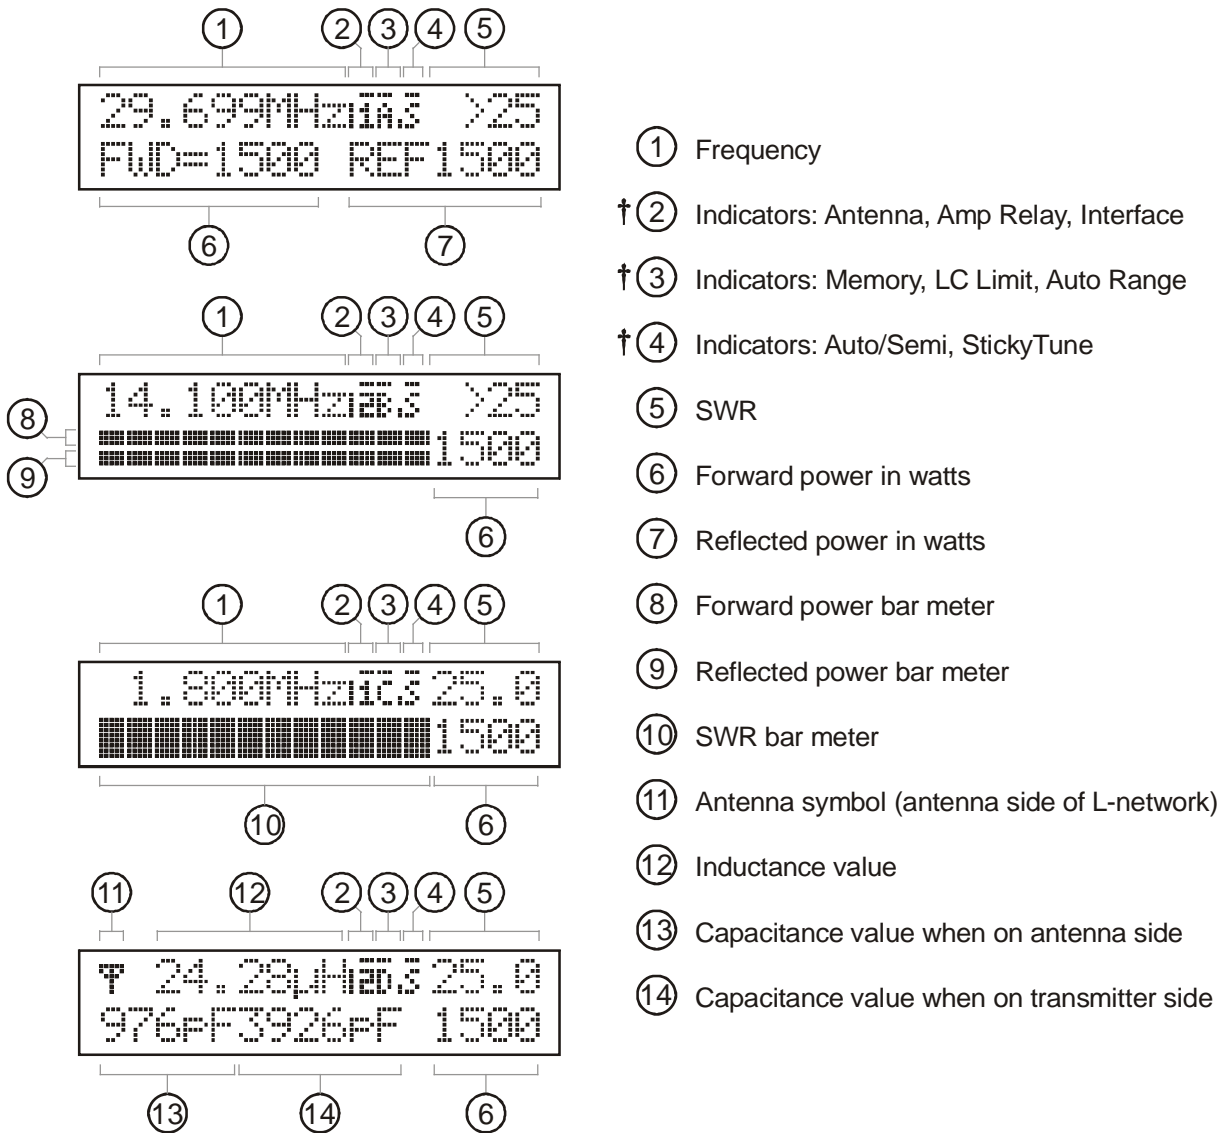
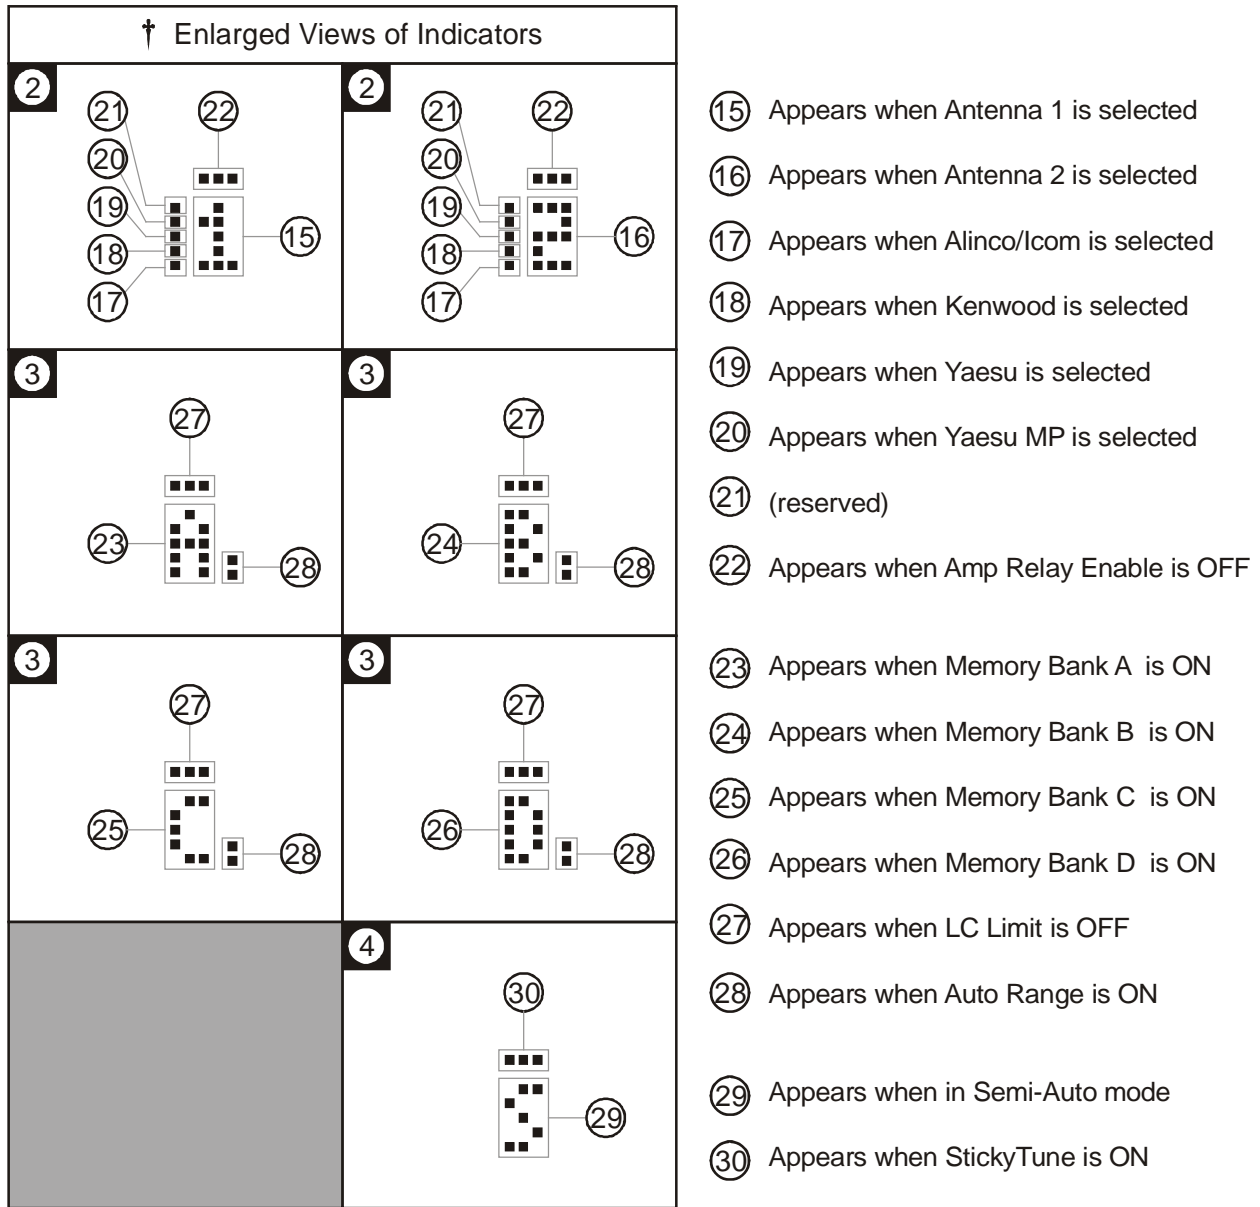

Figure 16. Main Mode Menus Display.
Figure 17. Tuner Indicators.
greater than 60 watts automatically sets the meter to the high power range. Forward power less than 250 watts and reflected power less than 40 watts automatically set the meter to the low power range. When auto range is enabled, a two-dot vertical segment appears in the lower right corner of the Auto Range indicator on the main LCD screen. Refer to Figures 16 and 17 for the on-screen Auto Range indicator.
The main mode menus show various tuner settings and status. There are four main mode menus arranged in a “wrap-around” structure. When powered on, tuner operation starts with the main menu that was last used. Within each main menu, press the [MODE] button briefly to view the next main menu. Press and hold the [MODE] button for two seconds to enter the setup mode (see below). Various tuner indicators are shown on all four main menus: Antenna 1/2, IntelliTune™, Radio Interface, Memory, LC Limit, Auto Range, Auto/Semi, and StickyTune™. Refer to Figures 16 and 17 for details on the displayed information.
The power meter default condition is auto range. Auto range automatically sets the meter scale according to the input RF power to the tuner. Forward power greater than 300 watts or reflected power greater than 60 watts automatically sets the meter to the high power range. Forward power less than 250 watts and reflected power less than 40 watts automatically set the meter to the low power range. When auto range is on, a two-dot vertical segment appears on the on-screen tuner indicator. Refer to Figures 16 and 17 for the on-screen Auto Range indicator.
Various tuner indicators are shown on the main menus to indicate tuner status. Refer to Figures 16 and 17 for locations of these indicators. The number enclosed within () is the item number of Figure 17.
Note: Pressing [MODE], [L-UP] and [L-DN] simultaneously toggles the Amplifier Bypass Control[™] feature ON and OFF; and disables the StickyTune[™] mode, if enabled. Refer to Figures 16 and 17 for the on-screen Amp Relay Enable indicator. If this feature is turned OFF (not recommended), it will be re-set to ON whenever power is cycled.
Allows you to select the meter scale range. In the 300 watts (low) range, the forward full scale is 300 watts and the reflected full scale is 60 watts. In the 3000 watts (high) range, the forward full scale is 3000 watts and the reflected full scale is 600 watts (multiple the meter reading by 10). Auto range automatically sets the meter scales according to the input RF power to the tuner. Forward power greater than 300 watts or reflected power greater than 60 watts automatically sets the meter to the high power range. Forward power less than 250 watts and reflected power less than 40 watts automatically set the meter to the low power range. Refer to Figures 16 and 17 for the on-screen Meter Range indicators. Default is AUTO Range.
The memory resolution for non-amateur frequency bands between 160 and 10 meters is approximately 0.2 percent of the lower frequency of each band. There are over 2500 memory locations for each memory bank, and each antenna has four memory banks (A-D). Tuner settings are stored in memory separately for Antenna 1 and Antenna 2 (settings for single-wire antenna are stored as Antenna 1). This provides memory for up to eight different antennas. Refer to Figures 16 and 17 for the on-screen Memory indicator. Defaults are memory banks 1A and 2A ON.
The upper limits of inductance (L) and capacitance (C) are factory-limited according to frequency and maximum power rating; i.e., higher frequencies need less inductance and less capacitance when the L-network is properly tuned. Pressing [C-UP] and/or [L-UP] allows capacitance and inductance to be increased only to these limits. When a selected capacitance or inductance is higher than its allowed limit, and the frequency is changed, that selection is automatically reduced to the value of its limit. These limits are used to prevent matching of extreme load impedance outside the tuner's specification, which may result in excess voltage and/or current across the tuner's components. This setting is not stored in non-volatile memory and reverts back to the default when the tuner power is cycled. Refer to Figures 16 and 17 for the on-screen LC Limit indicator. Default is ON.